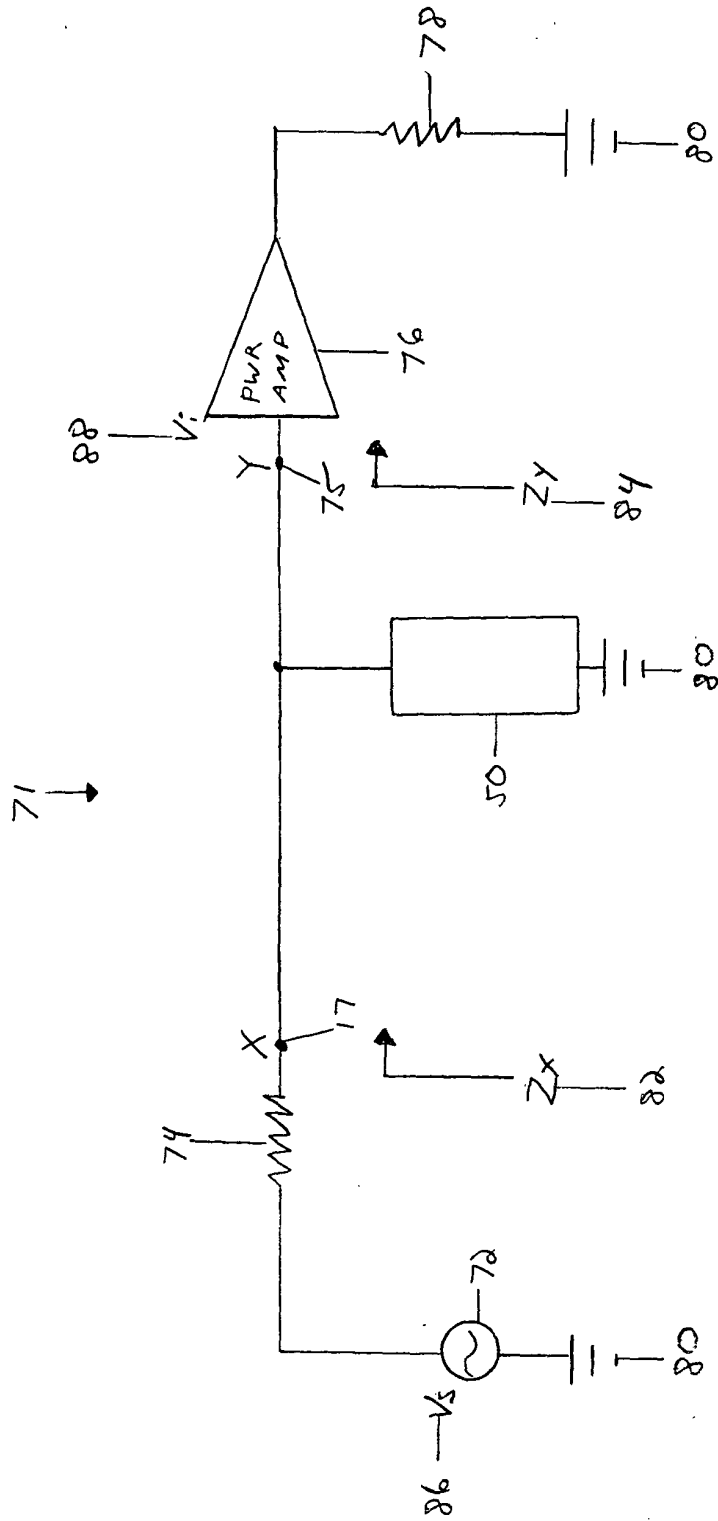

Fig. 4
FIG. 4 is a schematic diagram of a power amplifier circuit. The circuit includes a power amplifier (PWA) block (76) connected to a load (80) through a resistor (78). The input to the PWA is a voltage signal V_i (88) applied to the non-inverting input (75). The output of the PWA is connected to the load (80) through the resistor (78). The output voltage is V_o (84). The circuit also includes a feedback network consisting of a resistor (74) and a capacitor (72) connected between the output and the inverting input (77). The feedback network is also connected to a reference voltage V_s (86) through a resistor (72). The output voltage is V_o (84).